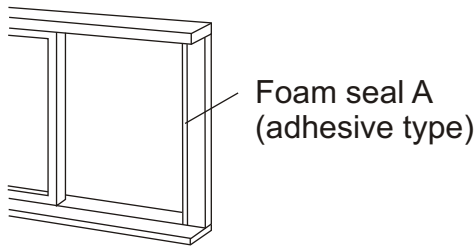

Fig.12
1. Cut the foam seal(adhesive type) to the proper length and attach it to the window frame. See Fig.12.